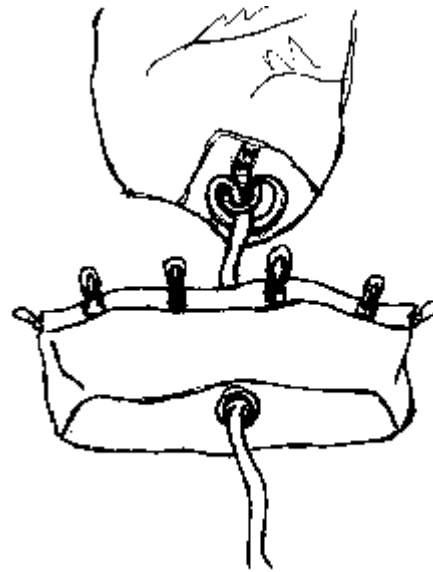

Figure 2-1
Step 6 Next, attach the main bag to the canopy as follows (*Figure 2-1*):